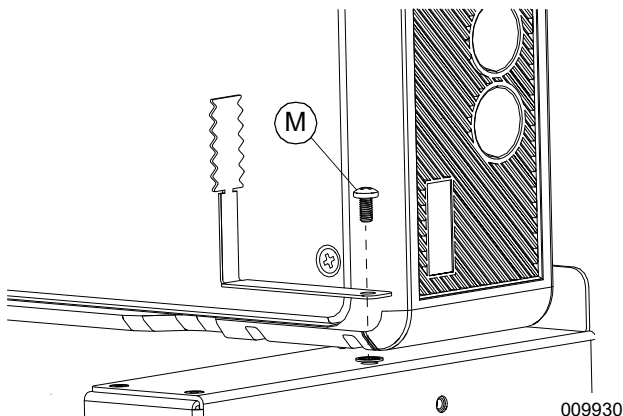

Figure 4-21. Installing Bottom Grounding Tabs
1. See Figure 4-21. Install two L-shaped grounding tabs (L) at the bottom of the module on both sides.
2. Fasten each grounding tab with a M4x8 mm SEMS screw (M) torque to 13 in-lb (1.47 Nm).